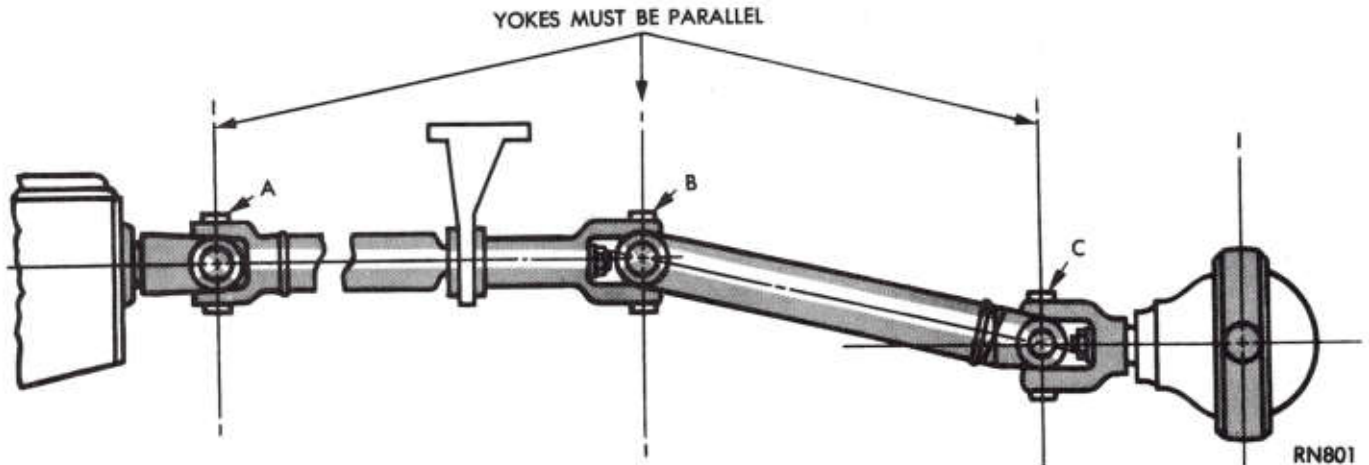

Fig. 5—Two-Piece Shaft Yoke, Vertical Alignment
- (1) On two-piece propeller shafts, rotate shaft until transmission yoke is in vertical position (Fig. 5).
- (2) Place a level protractor on yoke bearing "A" (parallel to shaft). Adjust the protractor so the bubble in spirit level is centered. Note reading on the protractor scale.
- (3) Perform the same operation on yoke bearings "B" and "C" with protractor parallel to shaft. Note protractor scale readings as both "B" and "C".
(4) The difference in protractor readings taken at "A", "B" and "C" indicates the amount of yoke misalignment. The vertical alignment of the two-piece shaft yokes should be kept as near 1 degree as possible.